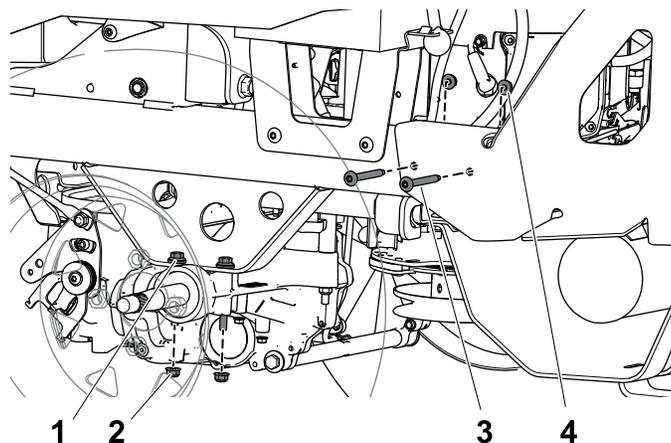

Figure 19
2. Remove and discard the bolts and nuts that secure the left side of the rear guard to the frame (Figure 19).
3. Remove and set aside the 2 flange nuts that secure the left drive assembly to the frame (Figure 19).